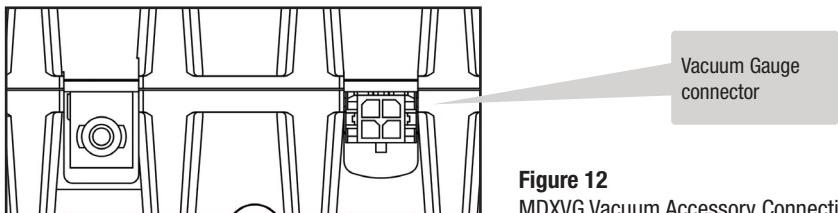

Figure 12
1. Plug the MDXVG Vacuum Accessory into the upper right side of the manifold (FIG. 12).